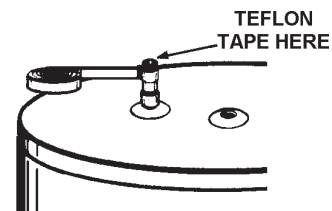

FIGURE 17.
4. Wrap the 1" NPT threaded nipples (75 gallon models) or 1.25" NPT threaded nipples (100 gallon models) with teflon tape or pipe joint compound, see Figure 17. Connect the existing piping to the water heater.